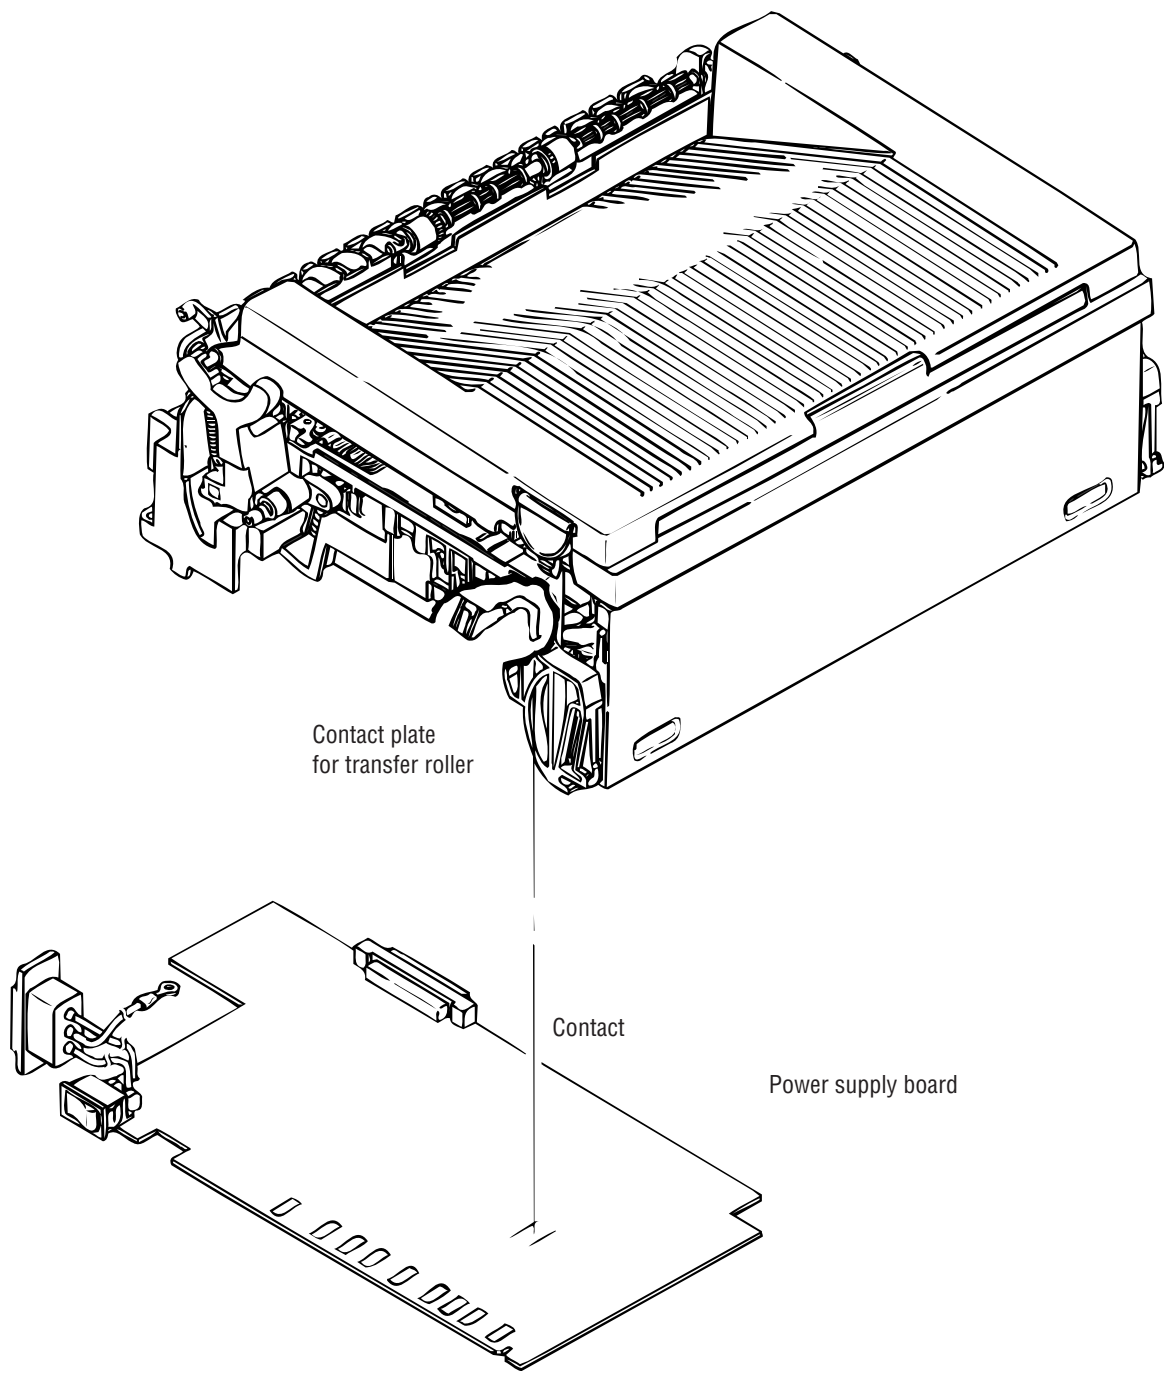

Figure 6-5
⑥ Print voids
• Is the contact plate of the transfer roller in proper contact with the power supply board (see Fig. 6-5)?
• No      Is the contact plate of the transfer roller in proper contact with the power supply board (see Fig. 6-5)?